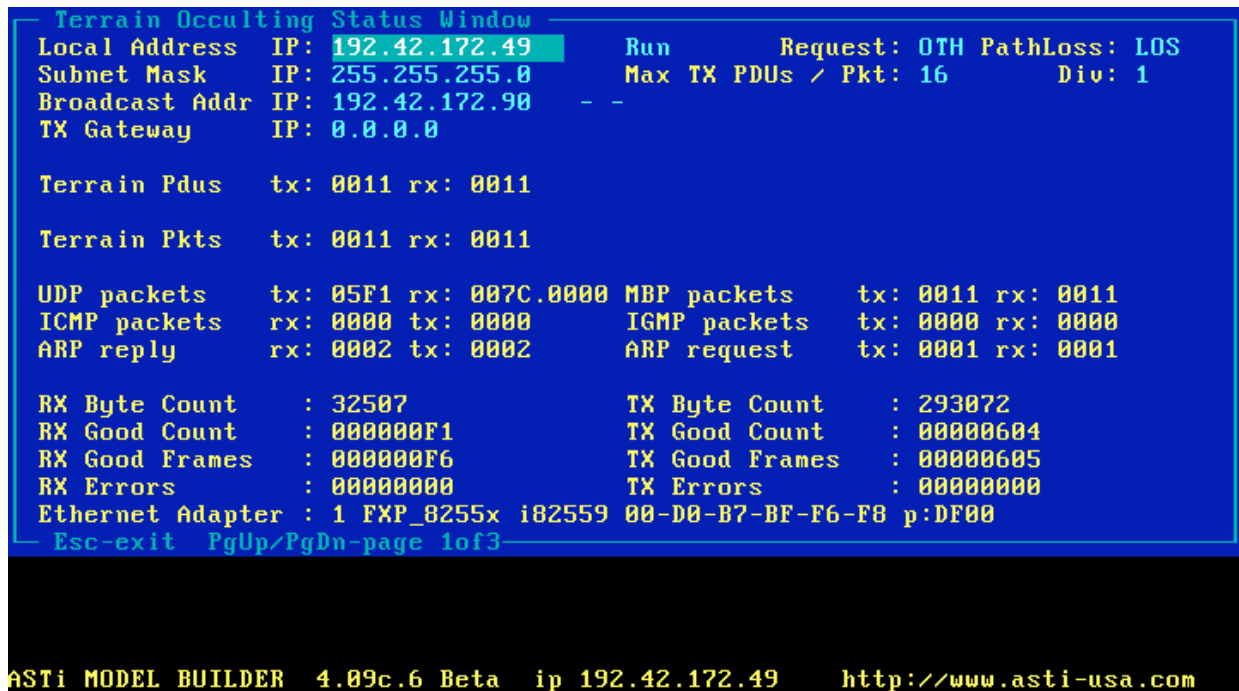

Figure 16: Model Builder Terrain Occulting Status Window
- Once “Paths rx-tx” is selected, the DIS Network Local RX/TX Paths List should appear, as shown in Figure 16. This screen displays a list of transmitter-receiver paths.